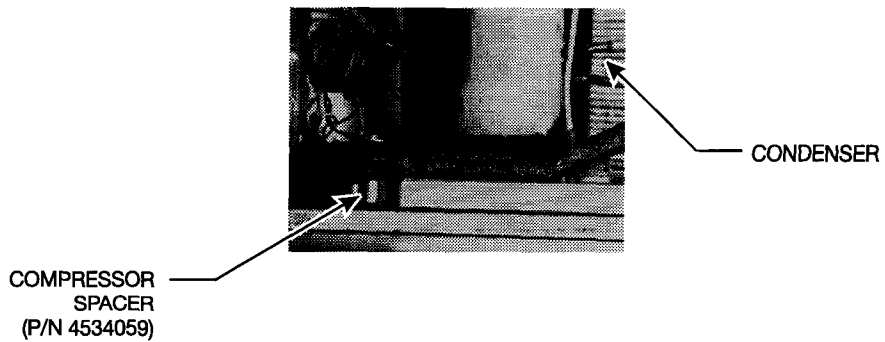

Figure 22
- a. Position two compressor spacers (4534059) under the side farthest from the condenser. This will aid in alignment. **See Figure 22.**